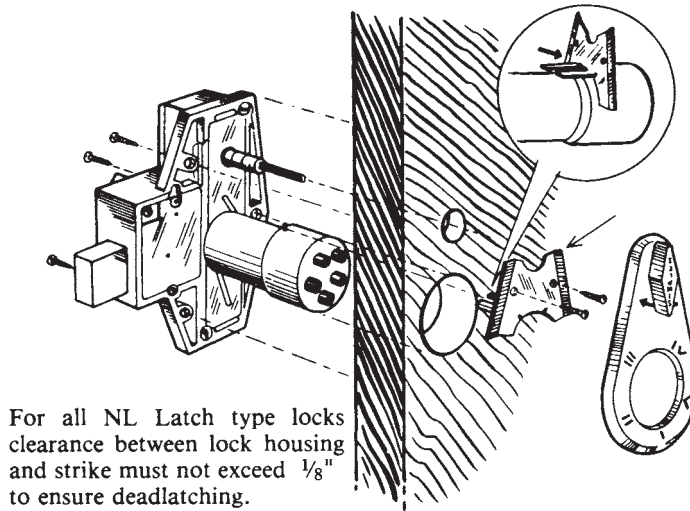

Figure 18.18 Lock housing and holding bracket positioning for proper lock installation. (*Simplex Access Controls Corp.*)
4. Slide the lock housing into the holes in the door as shown in Fig. 18.18. If the holes are drilled at an angle and the undersurface of the lock is not in full contact with the door, file out the holes to correct this. Screw the lock housing to the door.